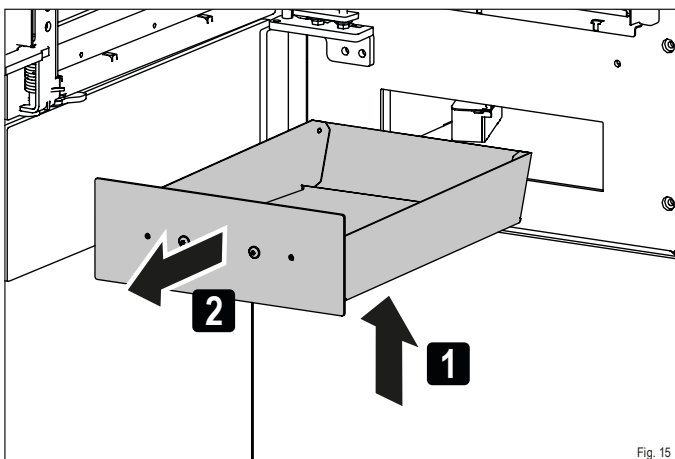

Fig. 15
- ▶ **Pull the ash drawer out of the opening by the cover (Fig. 15).**